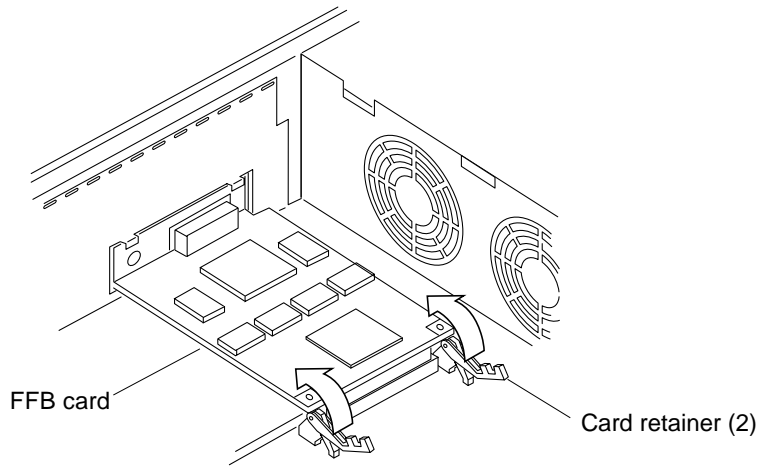

FIGURE 10-20 Securing the FFB Card Into the Chassis
6. Push the card retainer onto the board (FIGURE 10-20).